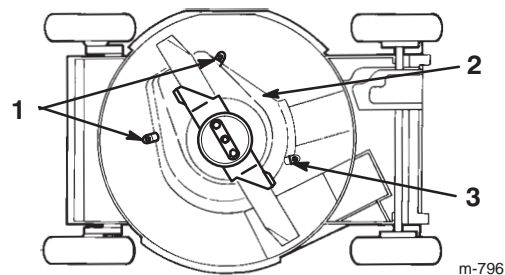

Figure 27
5. Remove the two blade nuts, the anti-scalp cup, the accelerator, and the blade (Fig. 27).
6. Loosen the tabs that secure the BBC shield to the deck by loosening the nuts or the bolts on the tabs (Fig. 27). Rotate the tabs 180° to move them out of the way.